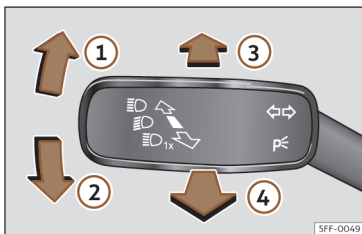

Fig. 105 Turn signal and main beam lever (depending on the version).
- From the base position, press the turn signal and main beam headlights lever forwards >>> Fig. 105 .
- **EITHER:** if main beam assist is on, pull the turn signal light and main beam headlights lever back >>> Fig. 105 .